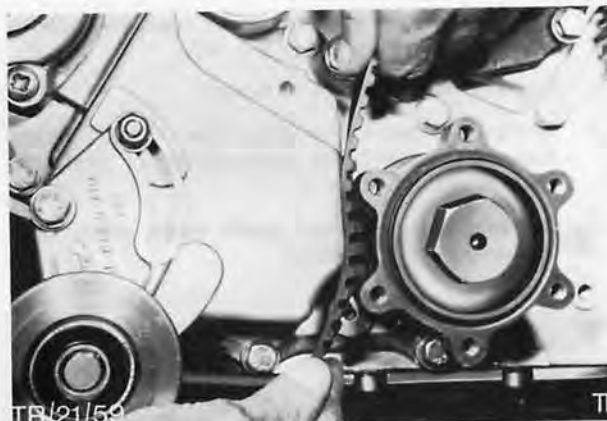

Fig. 48. Remove toothed belt
19. Slacken toothed belt tensioner and remove toothed belt, Fig. 48, then remove tensioner (2 bolts).